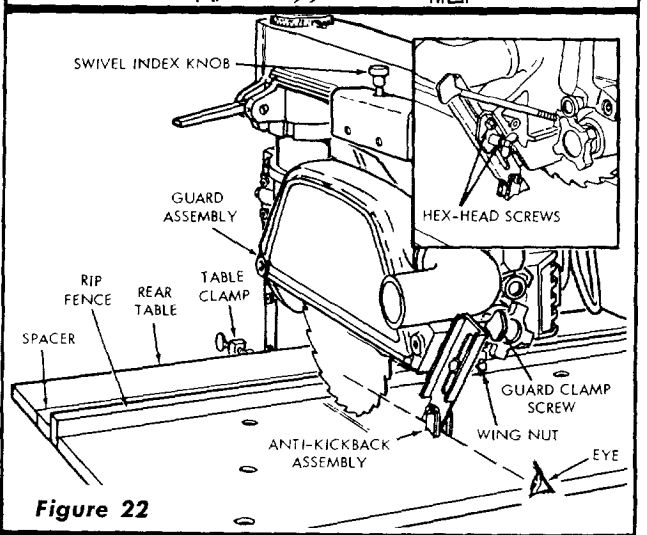
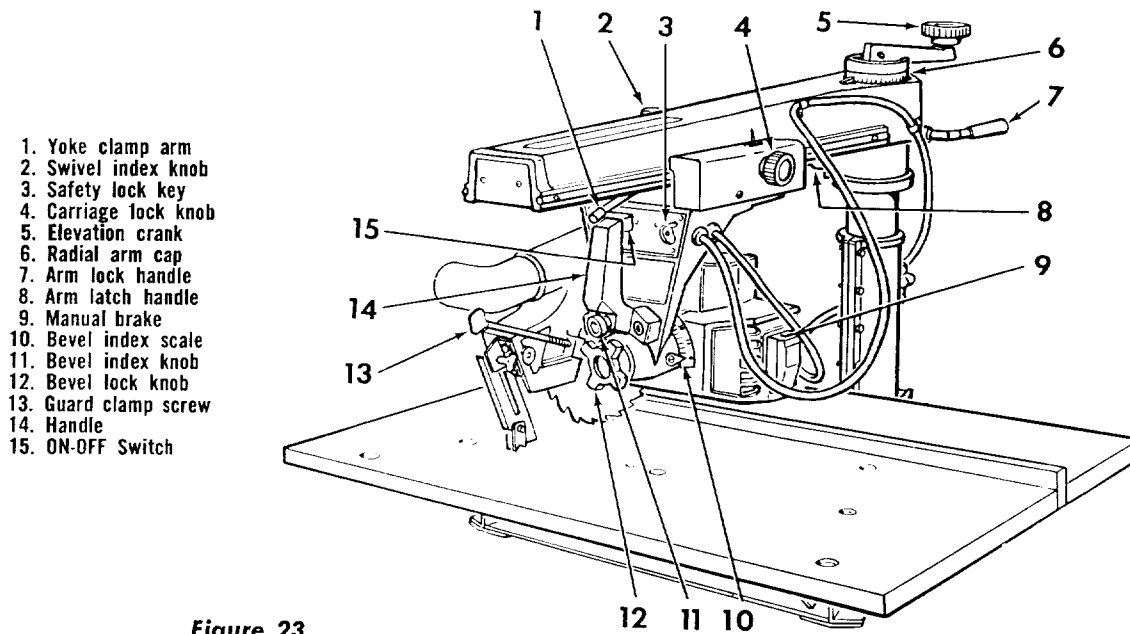

Figure 22
Figure 23
5. Install the guard assembly, making sure the locating notch on the guard engages with the mating "tongue" on the motor housing. Tighten the guard clamp screw finger tight. (See figure 22.)
1. Loosen the wing nut (figure 22) and raise the anti-kickback assembly to near maximum height. Tighten the wing nut.
2. Sight (visually) to check for proper alignment of spreader with saw blade, as shown in figure 22. If the spreader is not aligned, adjust it as follows:
# OPERATING CONTROLS (See figure 23)
**RAISING AND LOWERING THE RADIAL ARM** is accomplished by the elevation crank (5, figure 23). One complete turn of this handle will raise or lower the radial arm 1/8-inch.
**LOCKING THE CARRIAGE TO THE RADIAL ARM** is accomplished by the carriage lock knob (4, figure 23). Turn the knob clockwise to lock; counterclockwise to unlock. Avoid excessive tightening of the knob.
**ANGULAR MOVEMENT AND LOCKING THE RADIAL ARM** are controlled by the arm lock handle (7, figure 23) and the arm latch handle (8). The radial arm can be rotated 360° and locked in any desired position. The arm is unlocked by loosening the arm lock handle and raising the arm latch handle out of the detent notch. It is locked by tightening the arm lock handle. The radial arm has positive stops at 0° and 45°, left and right, and is released from these index positions by raising the arm latch handle. In order to provide the most positive and accurate settings at the index positions, the following is recommended:
**NOTE:** The arm lock handle (7, figure 23) is shown on the right-hand side of radial arm. The handle can be removed and re-installed to position it on the left-hand side of the arm, if desired.
**MOVEMENT AND POSITION OF THE MOTOR IN THE YOKE** are controlled by the bevel index knob (11, figure 23) and bevel lock knob (12). The bevel index scale indicates the angular position of the motor with respect to the horizontal position, from 0° to 90°, in either vertical position. The bevel index knob indexes the motor at 0°, 45°, and 90°, up and down. Pull the knob out to release the motor from any of the index positions. At any other position, the bevel index knob is not engaged. The bevel lock knob locks the motor to yoke when the motor is in any position.
**ROTATION AND POSITION OF THE YOKE** are controlled by the swivel index knob (2, figure 23) and the yoke clamp arm (1). The swivel index knob automatically indexes the yoke at each 90° position and both 0° positions. Lift the knob to release it. The yoke clamp arm locks the yoke to the carriage in any position. Push the arm to the right to release it; push to the left to tighten.
The normal locking position of the yoke clamp arm (1, figure 23) is parallel with the radial arm. An adjustment will seldom be necessary; however, it may be accomplished as follows:
1. Loosen the carriage lock knob (4, figure 23), move the carriage out to the forward end of radial arm and tighten carriage lock knob.
A series of six diagrams are located on the top surface of radial arm in order to designate the controls that must be used in basic "set-ups" and operating procedures. (See figures 23 and 29.) The inexperienced operator should become familiar with these diagrams before operating the saw.
1. "DEPTH OF CUT". The diagram shows the elevation crank (5, figure 23) which is used to raise and lower the blade. A dark blue circle is on the crank handle.
2. "ANGLE OF CUT". Two levers are involved in releasing, securing and indexing the angle of radial arm. These are: arm lock handle (7, figure 23) and arm latch handle (8, figure 23), each marked with a yellow circle.
3. "YOKE PIVOT". Two controls are used in this operation. They are: swivel index knob (2, figure 23) and yoke clamp arm (1, figure 23), each marked with a dark olive green circle.
4. "CARRIAGE LOCK". The carriage lock knob (4, figure 23), is rotated clockwise to secure the carriage on radial arm, and counterclockwise to release it. An orange circle is at the center of the knob.
5. "BLADE ANGLE". The two controls used in angular positioning and indexing of the motor to provide the desired saw blade angle are: bevel lock knob (12, figure 23) and bevel index knob (11, figure 23). A light blue circle is attached to each of these controls.
6. "POWER CONTROL". The ON-OFF switch (15, figure 23) is located in the upper left-hand area of the carriage and has a red circle directly under it.
1. Loosen the carriage lock knob (4, figure 23) and move the carriage to position the saw just forward of the rip fence. (See figure 22.)
3. Tighten the carriage lock knob (4, figure 23.)
**CAUTION:** Before making the cut, make sure the arm latch handle (8, figure 23) is fully engaged in the detent notch.
- a. Grasp the handle (14, figure 23) with the left hand and loosen the carriage lock knob (4, figure 23) with the right hand.